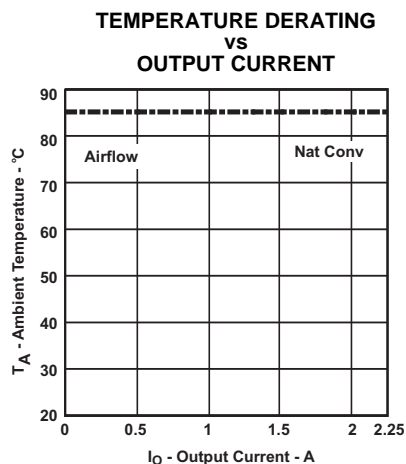

Figure 4.
- (2) The temperature derating curves represent the conditions at which internal components are at or below the manufacturer's maximum operating temperatures. Derating limits apply to modules soldered directly to a 100-mm x 100-mm, double-sided PCB with 2-oz. copper. Applies to Figure 4.